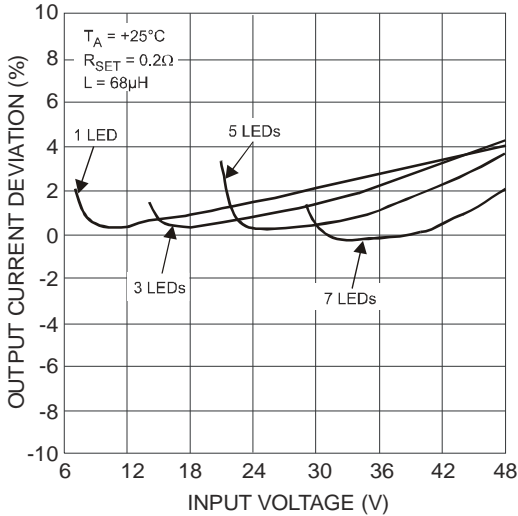

Figure 8 LED Current vs. Input Voltage
9. Refer to figure 8 for the device derating curve.